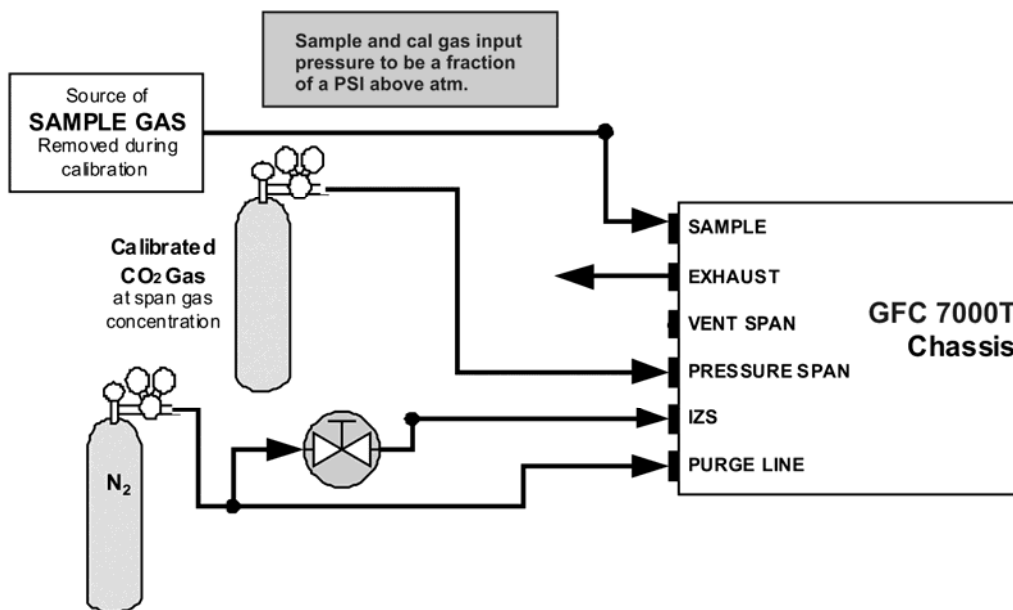

Figure 7-3: Pneumatic Connections – Zero/ Span Valves
Figure 7-3 shows the proper pneumatic connections for GFC 7000T with internal valve sets while Figure 7-4 adds the dilution calibrator and an external scrubber.
**STEP ONE:** Connect the sources of Zero Air and Span Gas as shown in Figures 7-3 or 7-4.